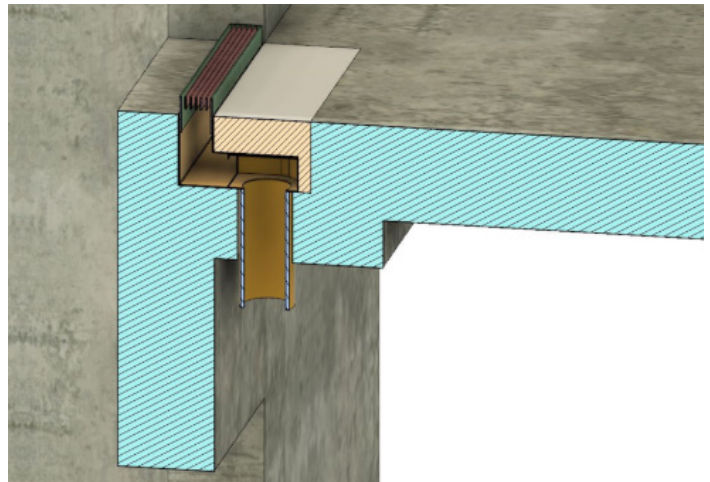

Figure 5: Adjust grate vertically as required
6. On models with a vertically adjustable grate, remove the grate and loosen the bolts that secure the grate seating frame. Adjust the seating frame vertically so the top of the grate will be flush with the finished floor level (Figure 5). Torque the bolts as specified by the manufacturer.